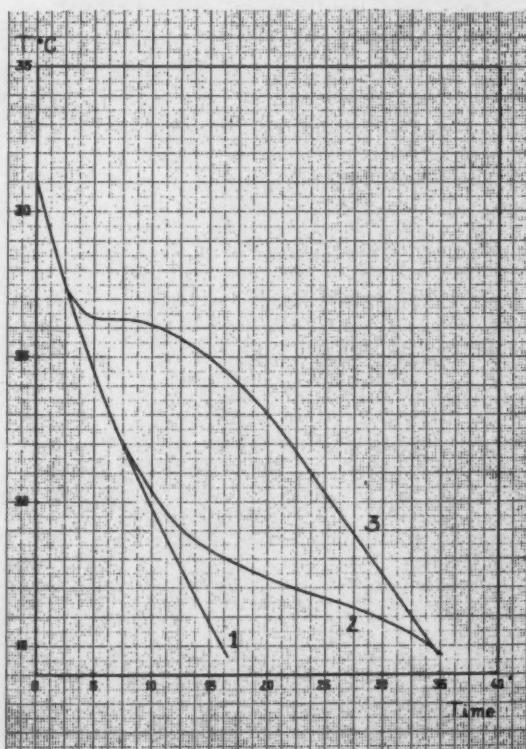

Fig. 20. Cooling curves of (1) Paraffin oil (2) Untempered chocolate (3) Properly tempered chocolate.
This explanation is founded upon consideration of cooling curves of tempered and untempered chocolate. With different cooling conditions in the apparatus, different curves are obtained, as can be seen from Fig. 15. For practical purposes, we use an apparatus similar to the one employed for the calorimetric investigation of cacao butter, but the sample is larger (1.5 g), it is contained in a light (3 g) aluminum cylinder, and the glass cylinder which acts as an air jacket is immersed in ice water coolant. Under these conditions the cooling rate is similar to the one observed in a cooling tunnel under practical conditions, and the curves obtained give valuable information on the degree of temper. Nearly the same method was used by Sachsse and Rosenstein (34). Fig. 20 shows the cooling curves of (1) paraffin oil (2) untempered and (3) properly tempered sweet chocolate (27% fat). It can be seen that with untempered chocolate, heat is evolved from 22° C (71.5° F) onward, but especially between 18-15° C (64.5-59° F). This could be due to direct crystallization of the β' -form, but upon heating the sample from 15° C (59° F) it was found that the melting heat of 22 cal./g for the cacao butter corresponded to a mixture of α - and β' -form. When a sample of the untempered chocolate was moulded, it was covered with bloom after one day at room temperature. With tempered chocolate, heat is evolved at 26.5° C (79.5° F) which is near the mid-melting point of the β' -form. After cooling to 15° C (59° F), a heating curve shows that the melting heat is 32 cal./g, so that at that point the cacao butter must be a mixture of the β - and β' -form in equal proportions. When the sample is reheated to room temperature, the transformation into the β -form is complete